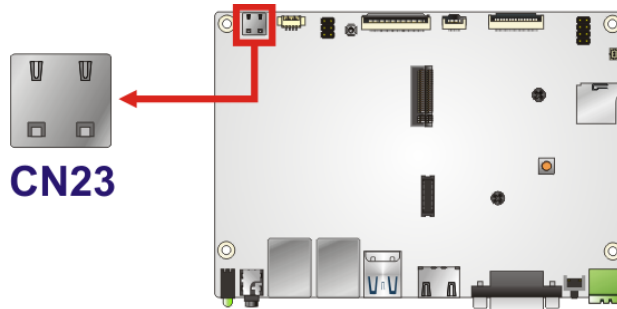

Figure 3-14: USB Type-C Port Location
- CN Location:** See **Figure 3-14**